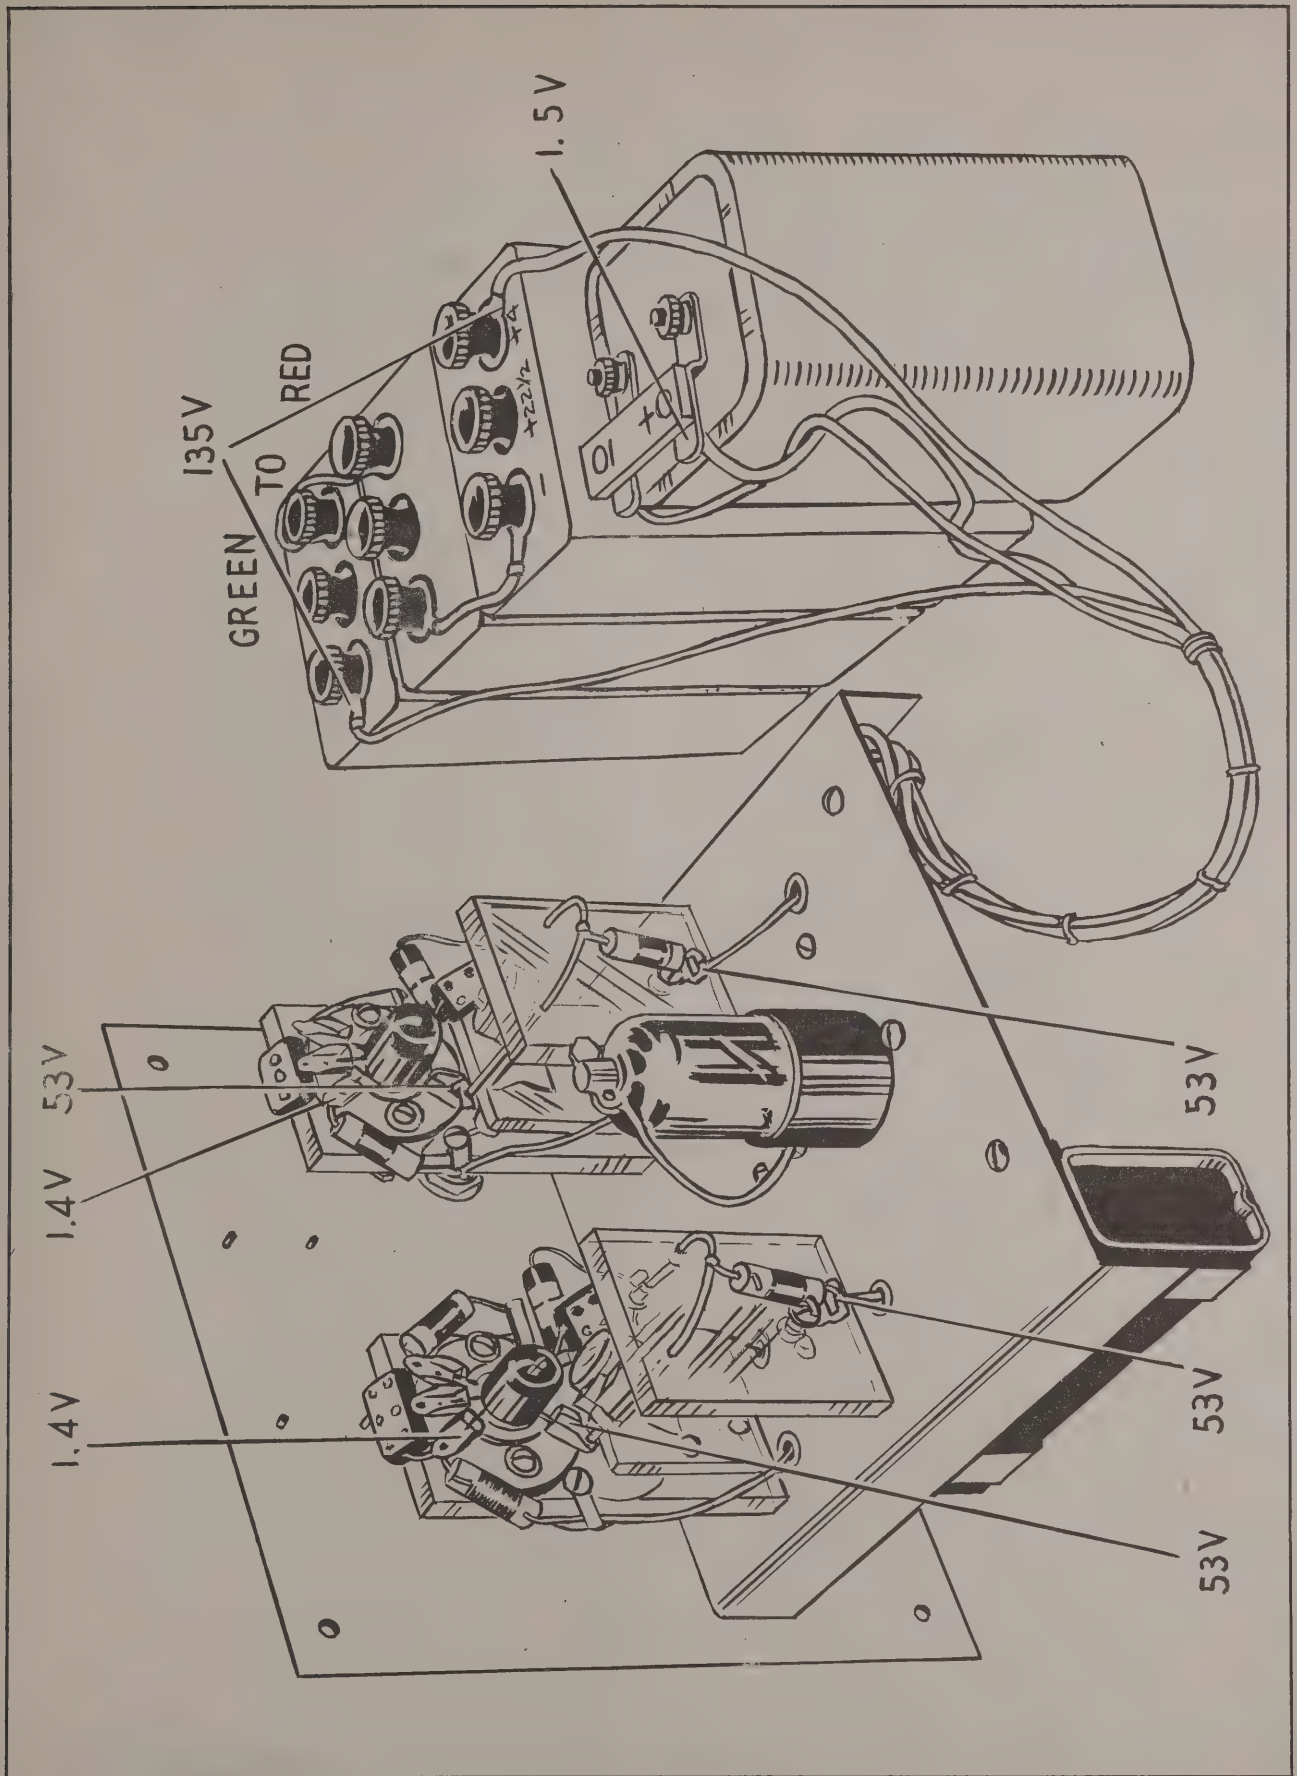

Figure 4-1. Radio Receiver BC-1066-B—Top Rear View, Voltage Diagram
a. GENERAL.—Maintenance of Radio Receiver BC-1066-A or BC-1066-B generally will be only a matter of checking batteries and tubes. If tubes are replaced, check carefully to insure coverage over the bands. (Refer to sec. II, par. 4.*b.* for band coverage check.) (Refer to par. 4, this section, for directions for replacement of tubes.) If voltage is low following installation of new batteries, check with the voltage and resistance charts. (See figures 4-1, 4-2, 4-3, and 4-4.)
(*a*) Make all readings from points indicated to chassis unless otherwise noted. (See figures 4-1 and 4-2.)